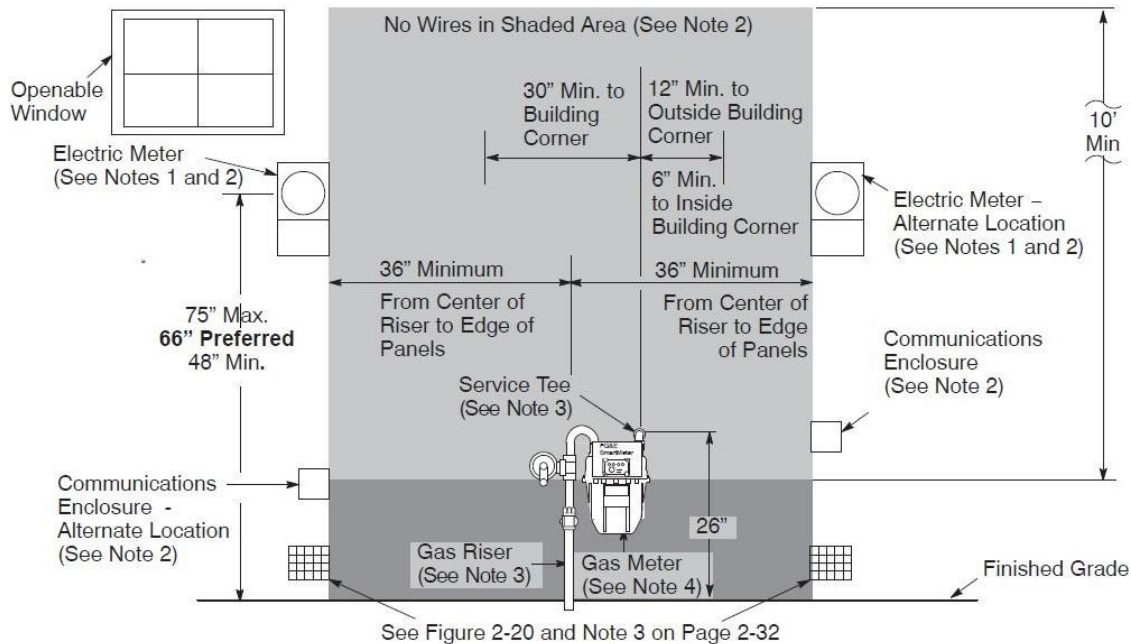

Figure 2-19
- Figure 2-19, "Electric and Gas Meter Set Separation Dimensions and Clearance," below; Figure 2-20, "Gas Meter Set Clearance From Building Openings," on Page 2-32; and figure 2-21, "Gas Regulator Set Clearance Requirement From Sources of Ignition," on Page 2-33, all represent various metering facilities' clearance requirements. If applicants install enclosures on their premises, the enclosures must meet the specifications provided in these illustrations.
Notes in Reference to Figure 2-19.
- The minimum dimensions and clearances in figure 2-19 are good for gas meters up to the 1,000 class. See Figure 2-15 on Pages 2-26 and 2-27 for illustrations of clear and level working space in front of the gas meter.